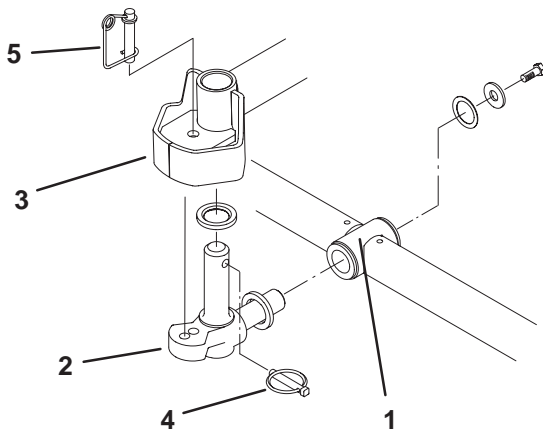

Figure 4
- Insert a thrust washer onto horizontal shaft of pivot knuckle as shown in Figure 4.
- Insert the horizontal shaft of the pivot knuckle into the mounting tube of the carrier frame (Fig. 4).
- Secure pivot knuckle to carrier frame with a thrust washer, flat washer and a flange head capscrew (Fig. 4).
- Insert a thrust washer onto vertical shaft of pivot knuckle (Fig. 4).
- If removed, insert the vertical shaft of the pivot knuckle into lift arm pivot hub (Fig. 4). Guide the pivot knuckle in place between the two rubber centering bumpers in the under side of the lift arm steering plate.
- Insert the lynch pin into the cross hole on the pivot knuckle shaft (Fig. 4).
Note: If fixed cutting unit position is required, insert steering locking pin into pivot knuckle mounting hole (Fig. 4).
- Hook spring wire around bottom of steering locking pin (Fig. 4).